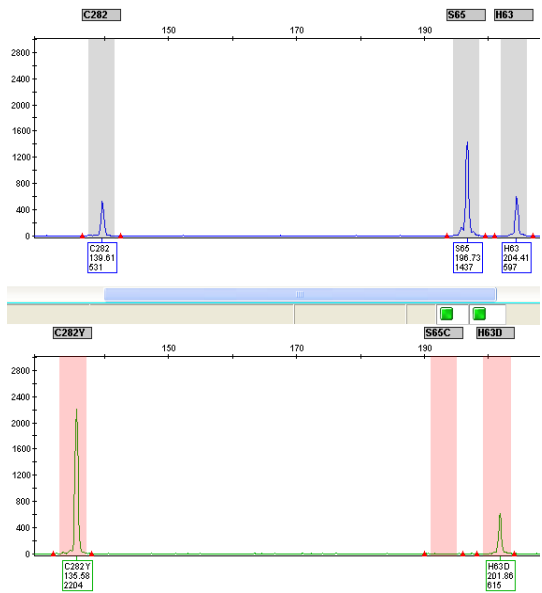

Figure 3. Heterozygous mutations in codons 282 and 63.
**Heterozygous mutation:** A sample is considered to be heterozygously mutated for a specific codon when both the wild type specific BLUE and the mutation specific GREEN signals for the same codon are detected in the sample. See Figure 3 for example.